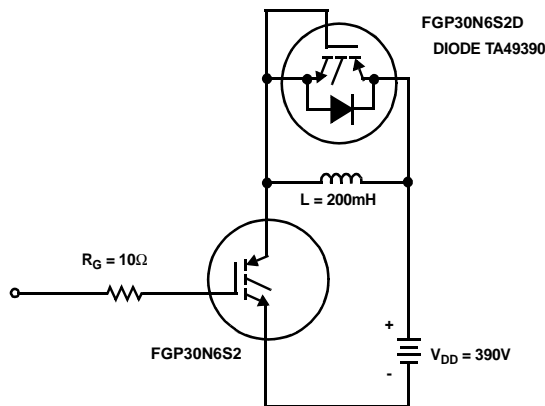

Figure 20. Inductive Switching Test Circuit
2. Values for two Turn-On loss conditions are shown for the convenience of the circuit designer. E_{ON1} is the turn-on loss of the IGBT only. E_{ON2} is the turn-on loss when a typical diode is used in the test circuit and the diode is at the same T_J as the IGBT. The diode type is specified in figure 20.